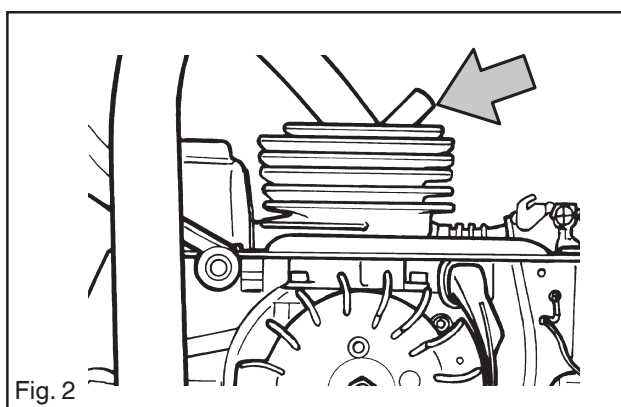

Fig. 2
6. Remove the spark plug and fit the piston stop (Refer to "3 Service tools" on page 8) in the spark plug hole. See fig. 2.